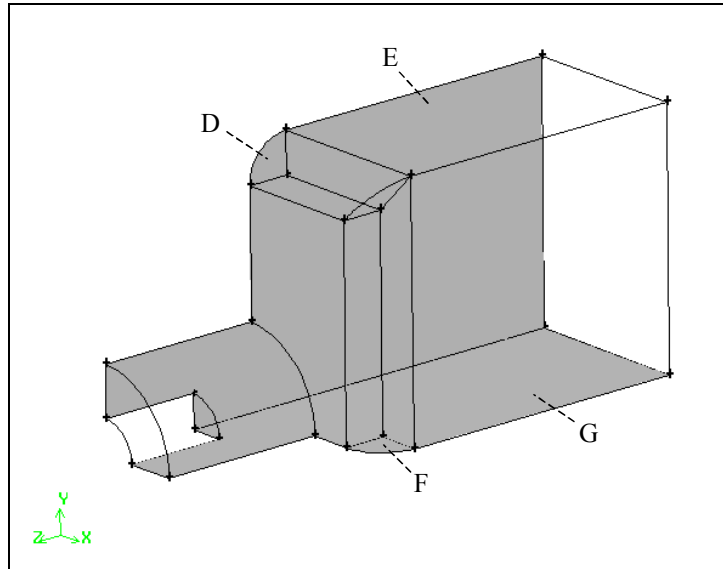

Figure 4-36: Boundary-type faces for the burner—symmetry
- iii. Select the two faces on the left side of the geometry as you look at it from the front (the faces marked D and E in Figure 4-36). Accept the selection of the faces.
- ii. Check that **SYMMETRY** is still selected in the **Type** option menu and select the two faces on the bottom of the geometry (the faces marked F and G in Figure 4-36). Accept the selection of the faces.